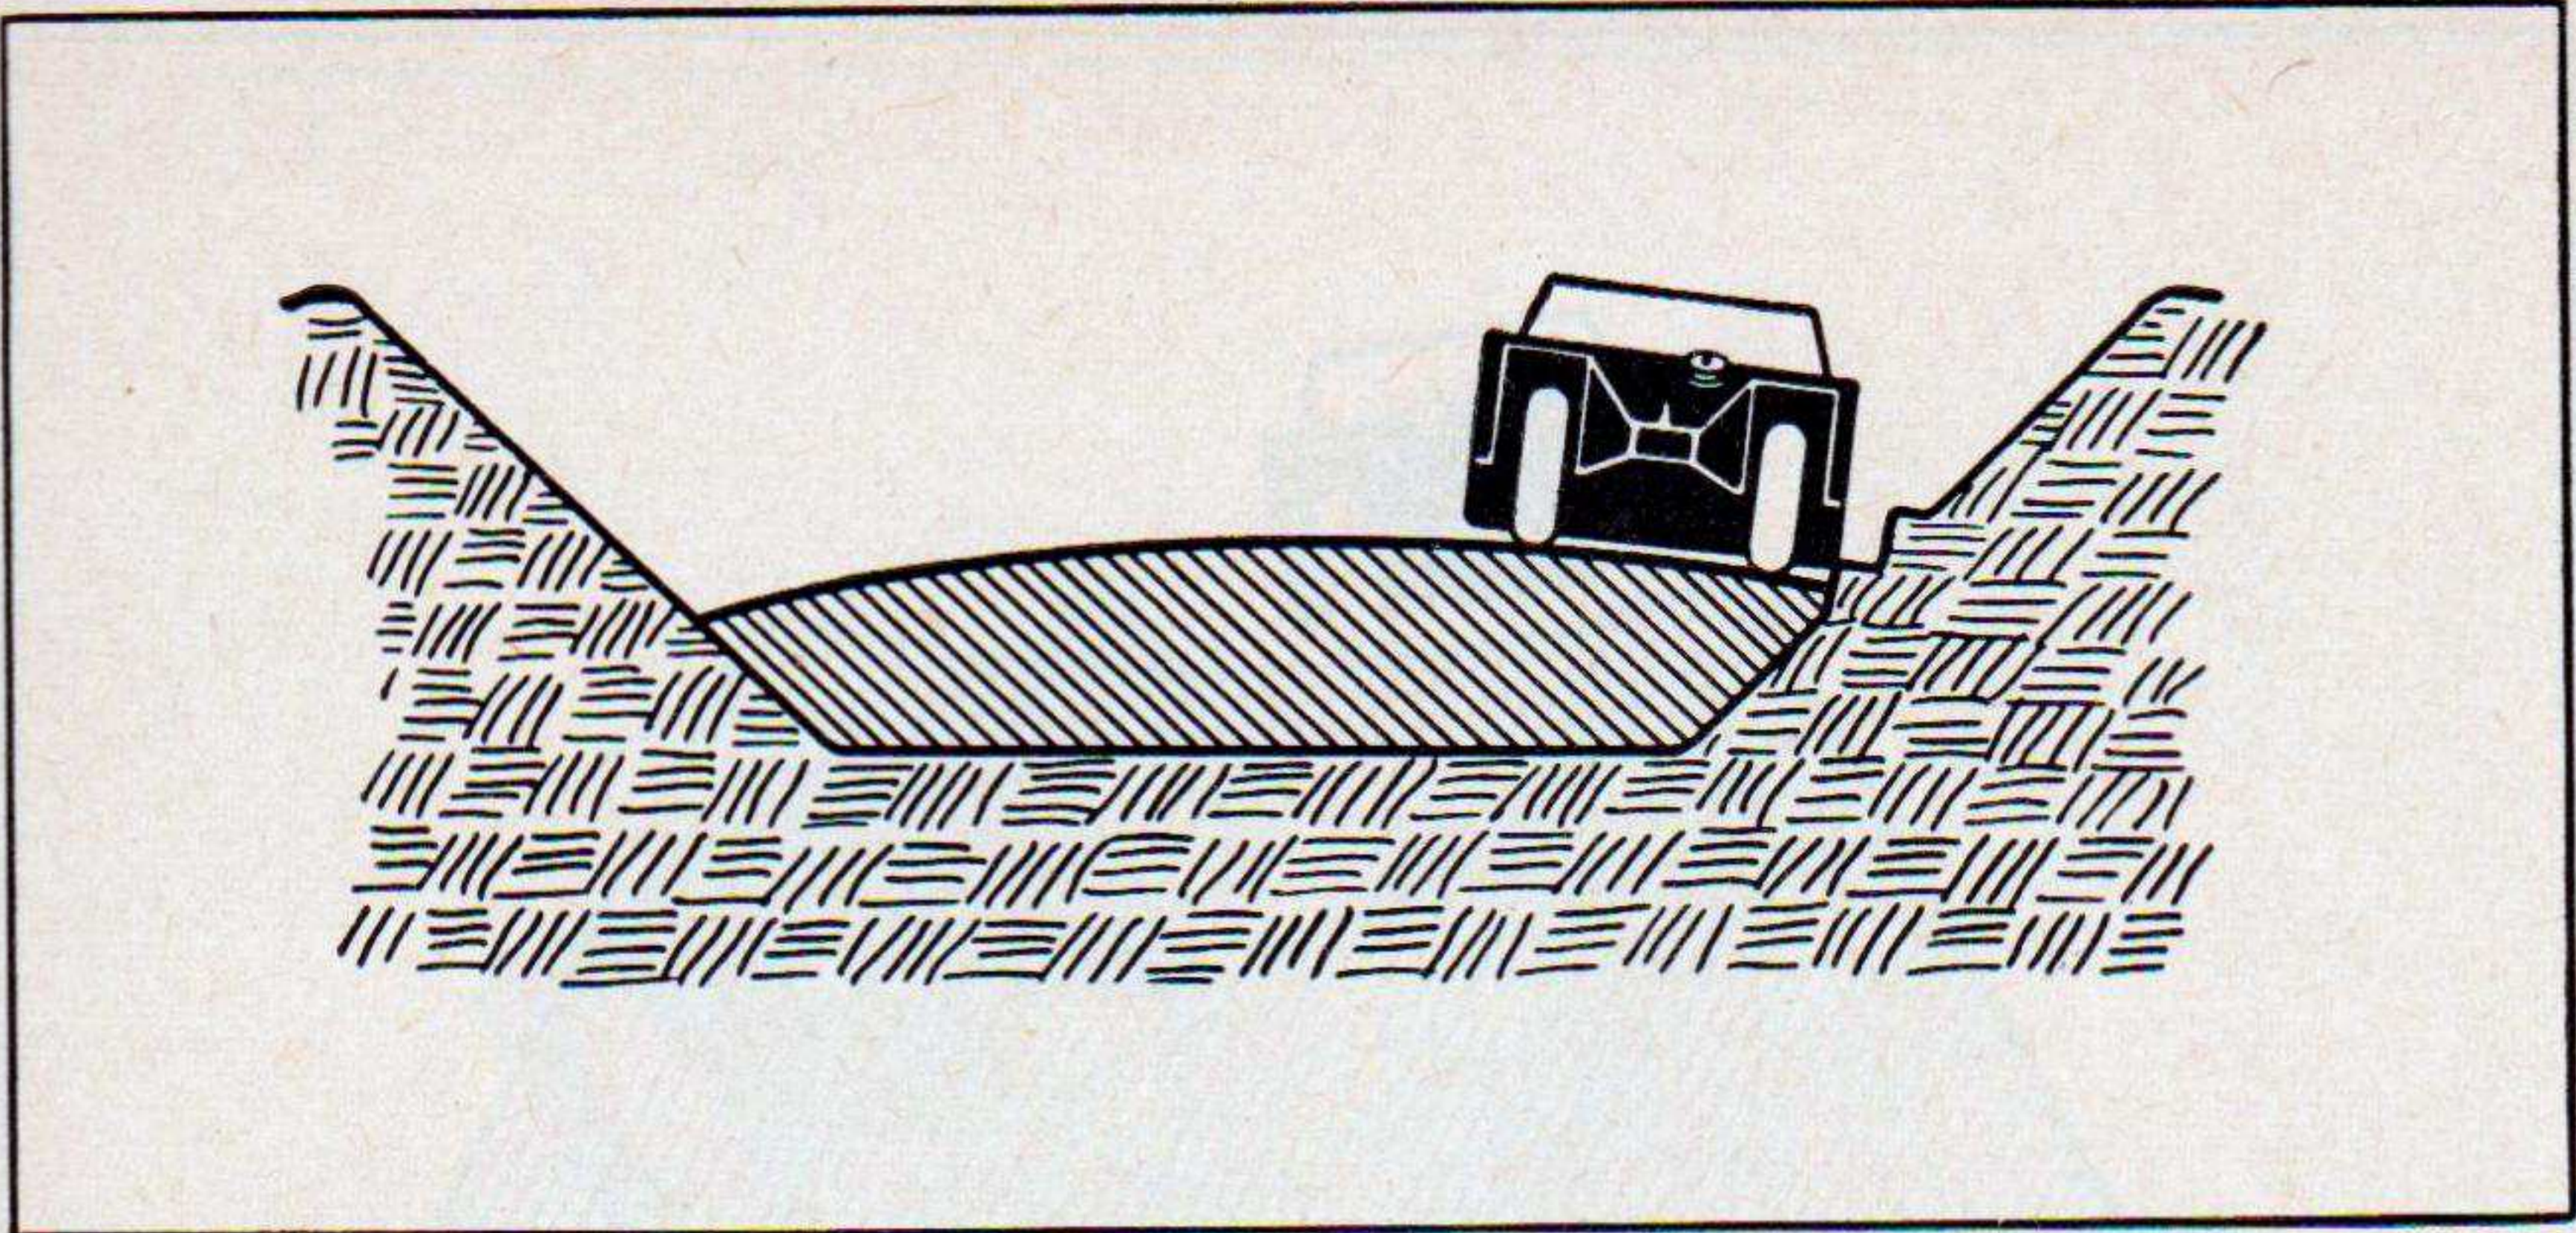

Figure 13. Making through-hill cuts.
- (4) To make the side of the cut slope down at the desired angle, follow the procedures of “stepping” in away from the bank or slope with each successive depth of cut, as covered in paragraph *j*, making through-hill cuts. If the slope finishing is done with a scraper, the finishing operations should be done as the work progresses. For finishing instructions see paragraph *m*.
j. Making Through-Hill Cuts (fig. 13). In making through-hill cuts, always keep the cut low next to the slopes or sides of the cut and high in the center. This will help maintain a better slope and also make the loads larger and more uniform. Plan the work so that the sides of the cut, slope down at the desired angle. This can be done by “stepping” in away from the bank or slope with each successive depth of cut, just enough to cause the slope to taper down at the desired angle. The slope can be finished by the scraper, or by other accepted methods of back-sloping. If finishing with a scraper, the slope should be finished as the cut progresses, or, in other words, the newly cut part of the slope should be finished each time that the unfinished part reaches a width or height equal to the width of the scraper blade. For finishing instructions see paragraphs *l* and *m*.